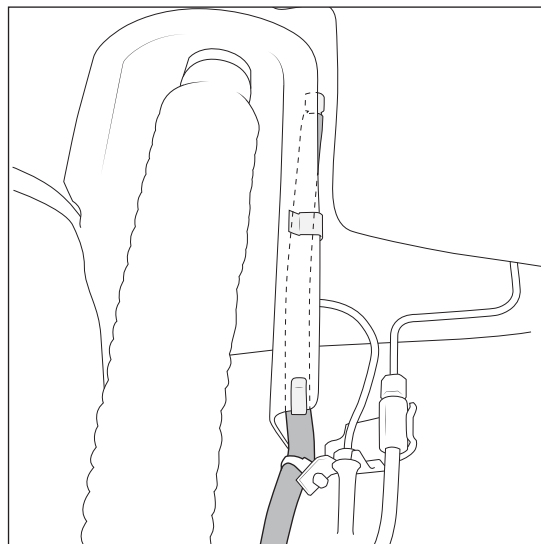

Figure 15
7. Move the Axle Vent down and attach as shown (Fig. 15).